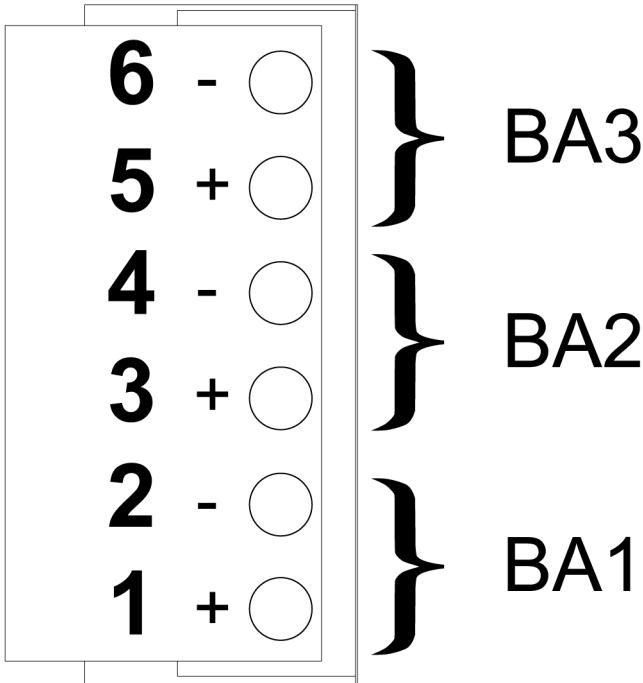

Figure 23. Signal input (building alarm) terminal block connector assignments
2. To locate the appropriate terminals and review the cabling and termination requirements, see Section 4.3.3, Table 14, Figure 22 and Figure 23.
4. Connect the signal input interface cabling as shown in Table 14 and Figure 23.